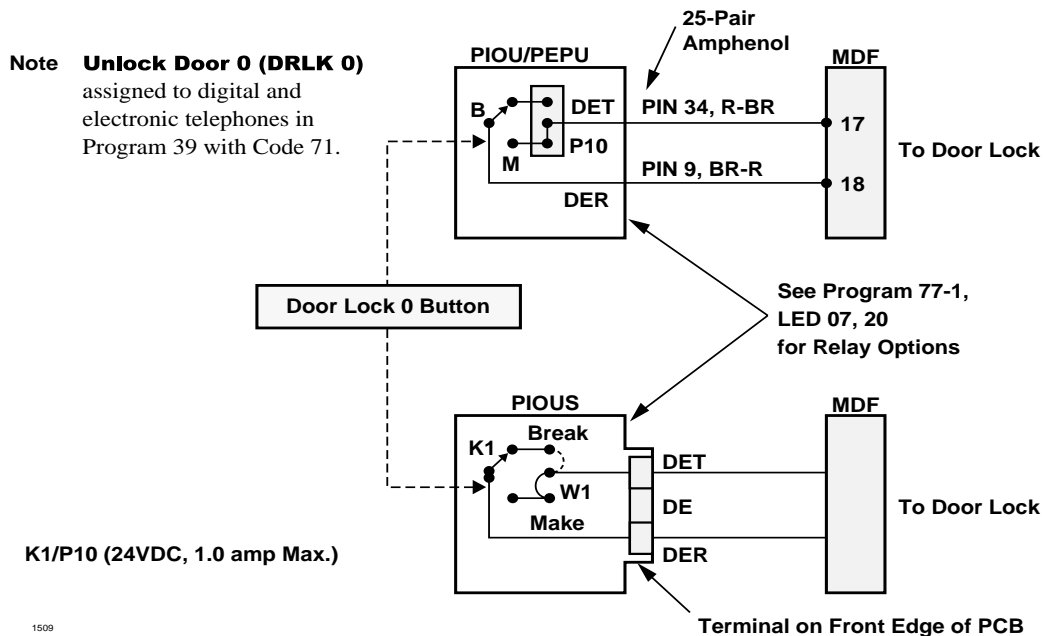

Figure 10-9 Door Lock Control Option (PIOU/PIOUS/PEPU)
1. Set Program 77-1 LED 07 to ON to configure the PIOU, PIOUS, or PEPU PCB for the door lock control function (see Figure 10-9).
4. See Figure 10-9 for wiring/interconnecting details. Connect the PIOU, PIOUS, or PEPU to the MDF as required for the door lock control function.
1. **DK40i and DK424:** connect PDKU circuit 5 (T/R and PT/PR) to the DDCB HKSU modular jack (see Figures 10-9 and 10-10).